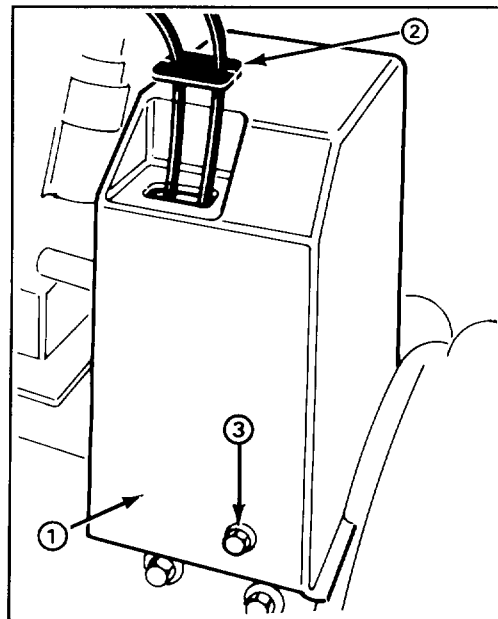

Figure 23
1. Remove (3) flange head capscrews securing belt cover to engine frame and slide belt cover up cables (Fig. 23).
4. Remove (2) flange head capscrews securing idler pulley assembly to engine frame. Remove idler pulley assembly.
8. On control cable which corresponds to belt being replaced, loosen jam nuts securing cable to bracket (Fig. 23).